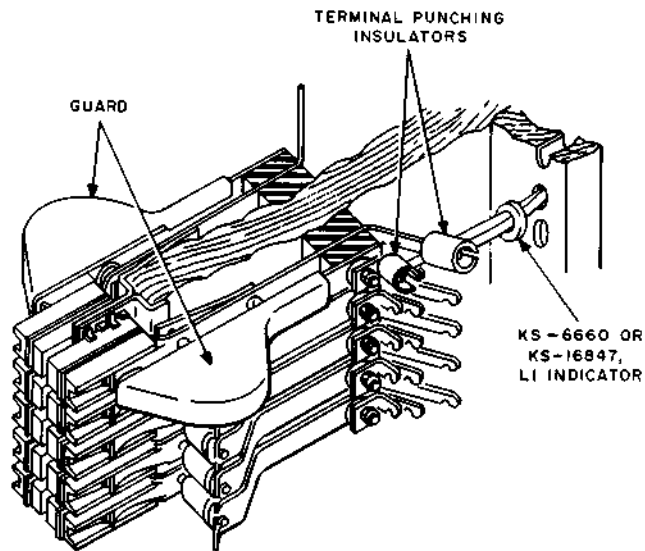

Fig. 28—KS-14539 Guard on Protector Mounting
16.07 On other than the 300-type connector or the replaced 121-type protector, place the KS-14539 guard so as to enclose the front portion of the heat coil and protector block springs. (See Fig. 28.) These guards are held in place by ridges on the inner surface which engage the heat coil springs. In addition to identifying important circuits, the color will serve as a marker to warn against accidental contact with the circuit involved and against removal of the heat coils and protector blocks during maintenance operations. When the KS-14539 plastic guard is used on a designated cable pair of a C-type protector upon which the